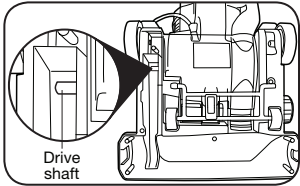

Fig. 3
3. Loop a new belt around the drive shaft (Fig. 3) and the raised ring between the bristles on the brushroll (Fig. 4).